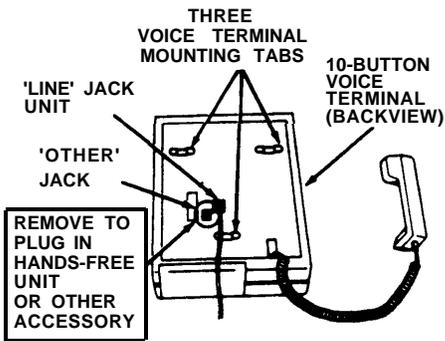

Figure 9
13. Position the back (or bottom) of the voice terminal so the three terminal mounting tabs (Figure 9) fit into the terminal mounting slots.